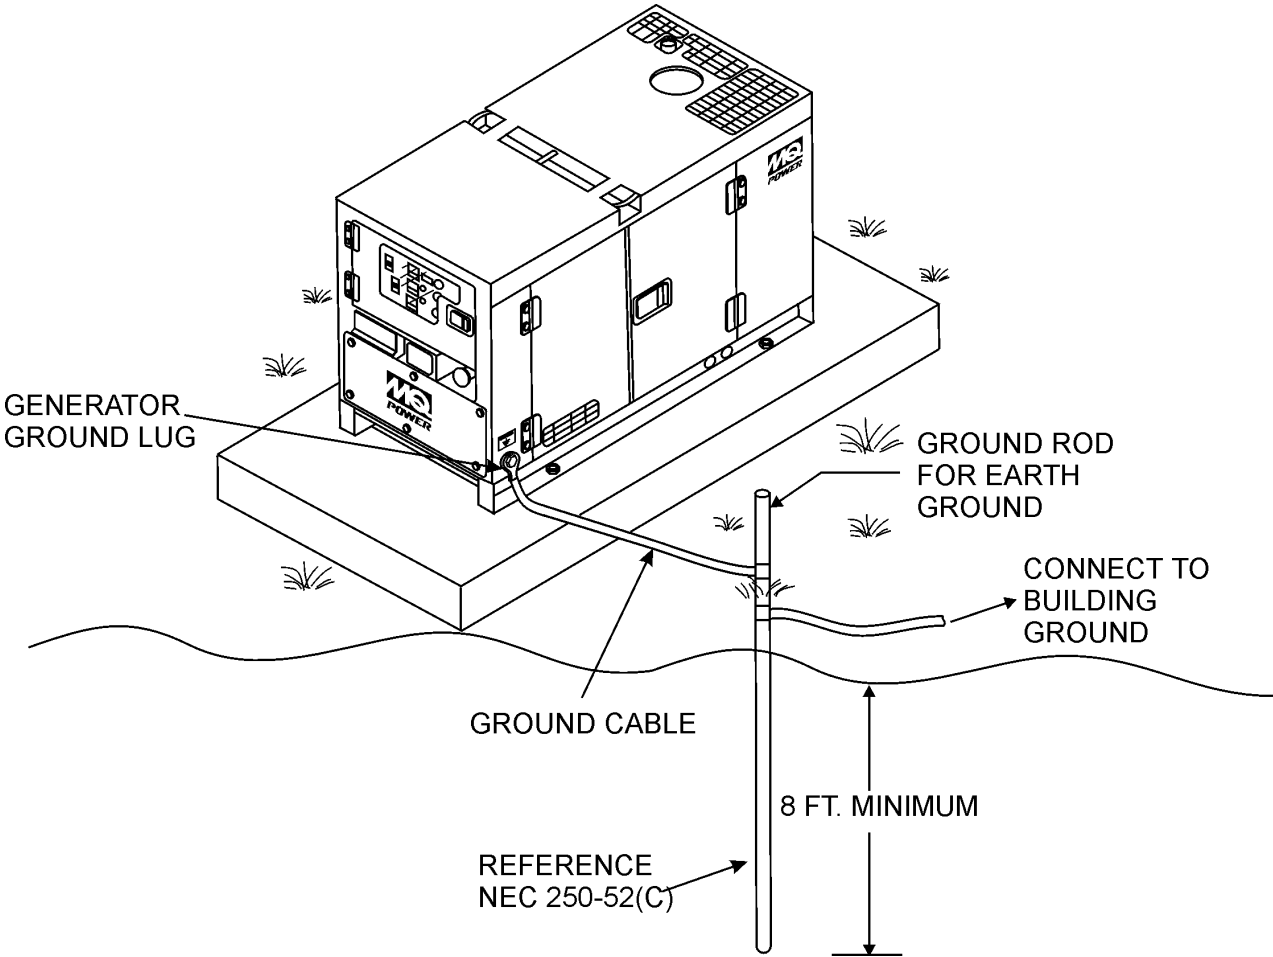

Figure 14. Typical Generator Grounding Application
2. When grounding the generator (Figure 14) connect the ground cable between the lock washer and the nut on the generator and tighten the nut fully. Connect the other end of the ground cable to earth ground.